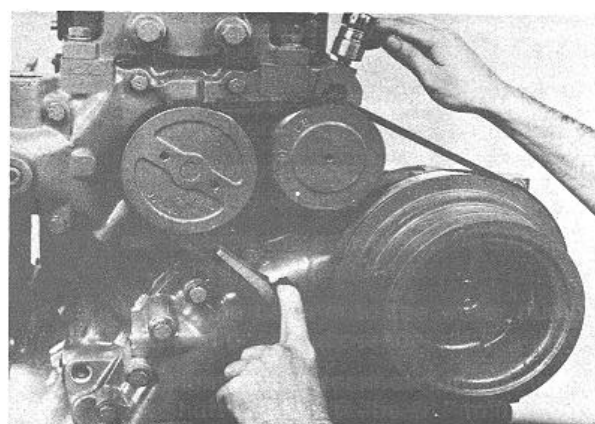

Fig. 14-53 (N114272). Adjust The Belt Tension.
- b. Turn the adjusting screw to tighten the belts. Tighten the belts so that they have 100 to 110 lbs. tension. Use the Part No. ST-1274 Belt Tension Gauge to check the belt tension, Fig. 14-53.